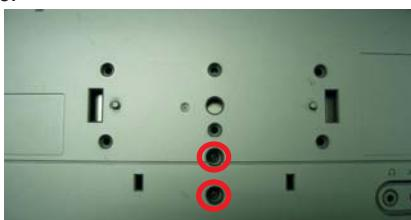

Fig.5
- Remove the two screws as shown in Fig.5